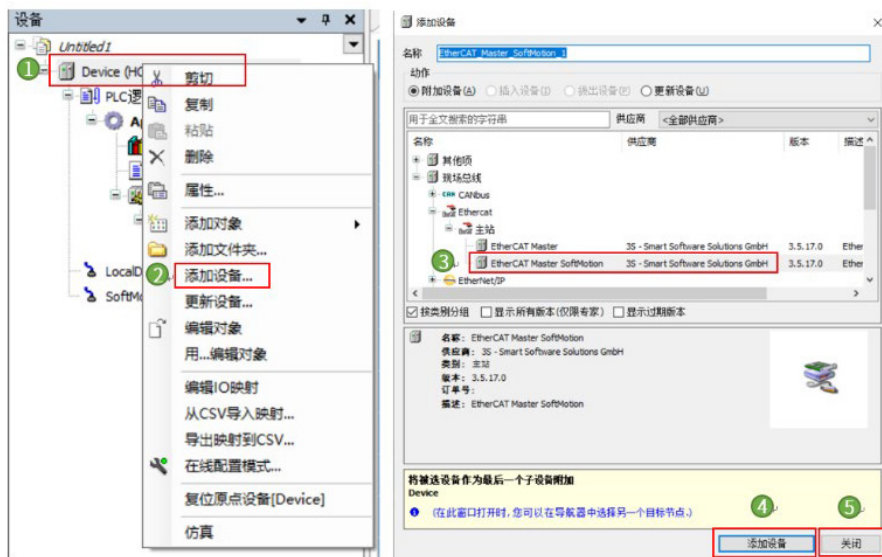

Figure 13-7 EtherCAT master station adding
1. Right-click [Device] and select [Add Device]. Select [EtherCAT Master SoftMotion] on the pop-up screen, and click [Add Device], then click [Close] after adding, as shown in Figure 13-7. At this time, the EtherCAT master station has been added.